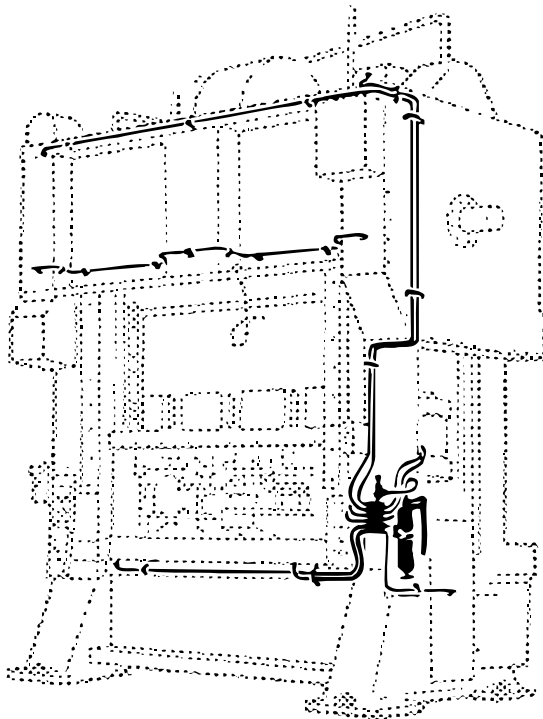

Figure 1. Typical Installation
1. The divider valve should be centrally located relative to its lubrication points; allowing for lengths of feed line tubing to be as equal as possible. It should also be accessible to the operator for ease in contacting the grease fitting at the inlet to the divider valve. (Figure 1)